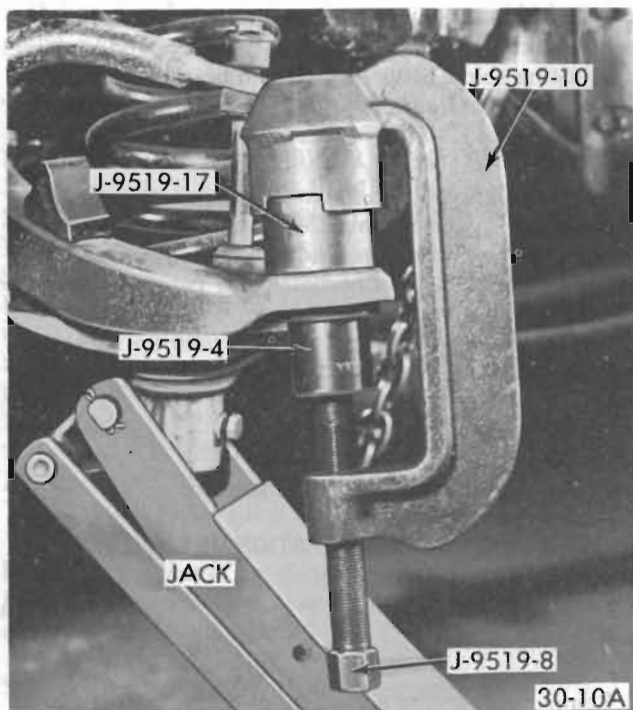

Figure 30-13 - Installing Lower Ball Joint
2. With a suitable socket and handle, press the ball joint into the lower control arm until it is fully seated as shown in Figure 30-13. Turn the stud so the cotter key hole is fore and aft.